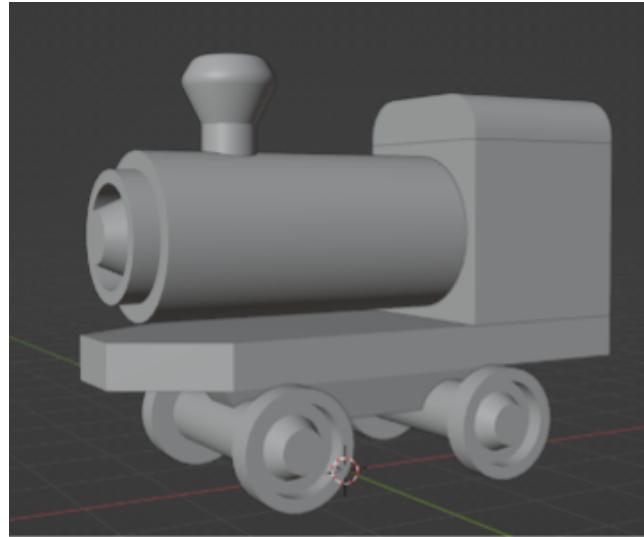

Figure 1.20: File names with corresponding views.
**Objectives:** Create model of a locomotive (see Fig.1.20) to practice: